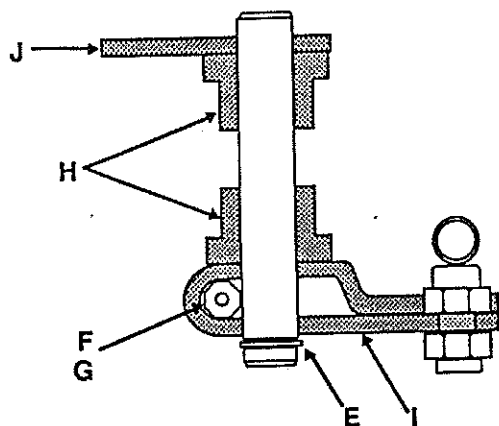

Figure 2-19
- Remove retaining ring (E, Figure 2-19). Loosen the 3/8-16 x 2-14 bolt (F) and locknut (G).
- Pull the sector gear assembly (J) upwards, toward steering column to remove.
- At this point, the flange bearings (H) located on the steering support assembly, may be replaced.